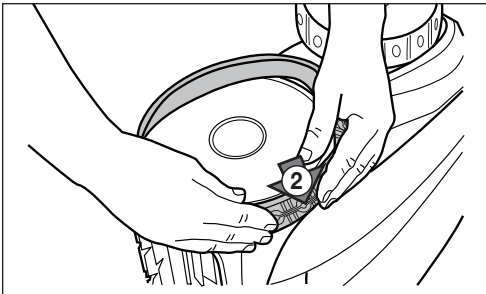

Figure 32. Start on One Side of the Tyre
4. Push one side of the tyre on to the wheel and fit the rib of the tyre in the groove of the wheel. See *Figure 32*.